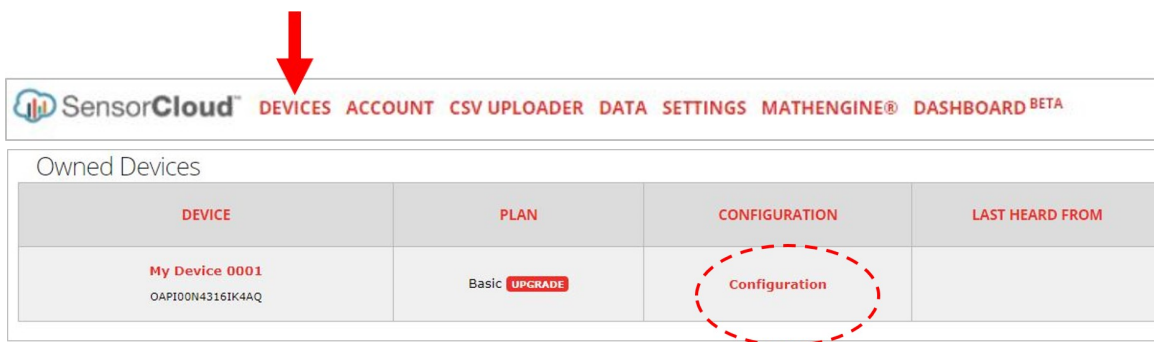

Figure 26 - Gateway Configuration
1. While in SensorCloud™ open the Devices menu, and select the device Configuration link (*Figure 26 - Gateway Configuration*).